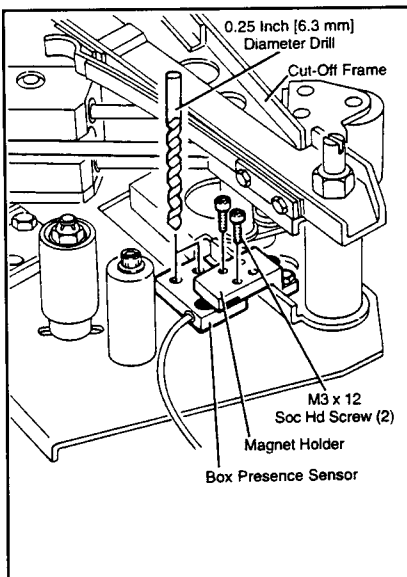
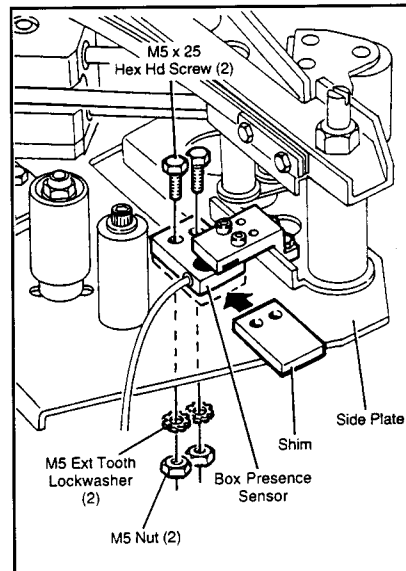

Figure 15
Figure 16
9. Temporarily attach the box presence sensor to the magnet holder with two M3 x 12 socket head capscrews as shown in Figure 15. Using the holes in the box presence sensor as a guide, drill two 1/4 inch [6.3 mm] holes through large side plate of taping head. **Be sure cut-off frame is in its normal rest position when drilling holes.**
10. If magnet holder is not attached to box sensor yet, loosely attach it with M3 x 12 socket head capscrews as shown in Figure 15. Slip the .190 inch [4.8 mm] thick shim (provided in kit) between box presence sensor and large side plate and attach sensor to side plate with two M5 x 25 hex head capscrews and nuts as shown in Figure 16. **Capscrews should be inserted through sensor with nuts and external tooth lock-washers on back of side plate.** Snug tighten the M5 mounting screws. Remove the two M3 capscrews securing magnet holder and box presence sensor together. Firmly tighten the M5 mounting screws.